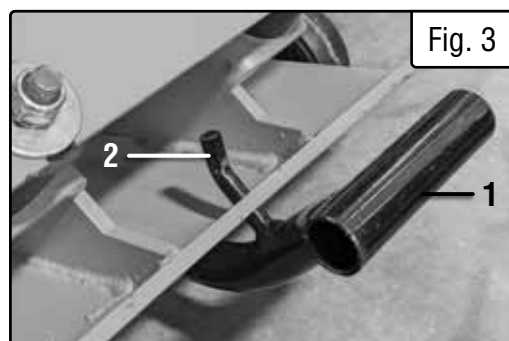

Fig. 3
1. Carefully slide the wheel bracket under the plate compactor. Make sure that the foot brace (Fig. 3 - 1) is facing towards the handle assembly.
2. Fit the mounting rod (Fig. 3 - 2) through the hole on the base of the plate compactor.